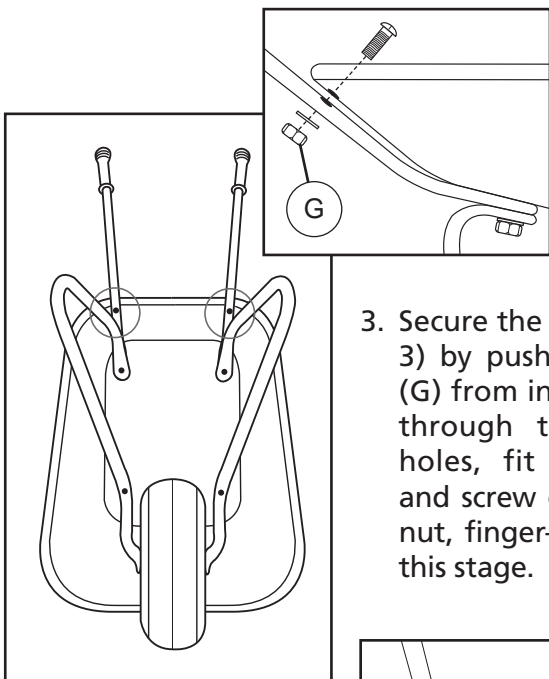

Figure 3
3. Secure the handles (Fig. 3) by pushing the bolt (G) from inside the pan through the lined-up holes, fit the washer and screw on the nylon nut, finger-tight only at this stage.